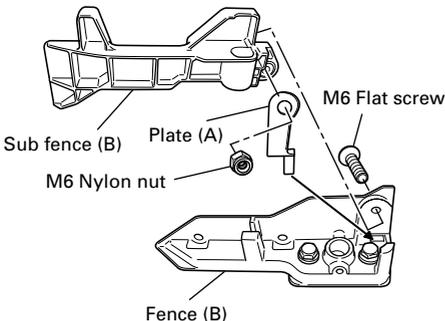

Fig. 7
5. Install the sub fence (B) (Fig. 7)
In the case of direct angle cutting and angle cutting, use the sub fence. The sub fence (B) can be installed on the right side of the guide fence (B). Place the attached plate (A) in the position as shown in Fig. 7, insert the tip in the groove of fence (B) and simultaneously, insert flathead screw M6 into fence (B), sub fence (B), and plate (A), then tighten nylon nut M6 with the included 10mm box wrench until the sub fence (B) can smoothly rotate. Then, you can realize stable cutting of the material with a wide back face.